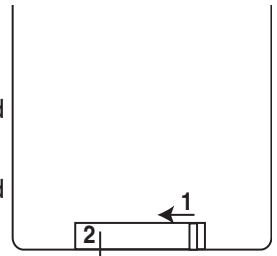

Figure 1
- Remove the battery compartment door by pushing the tab to the left (arrow 1) and then pulling the battery compartment down (arrow 2). See figure 1.